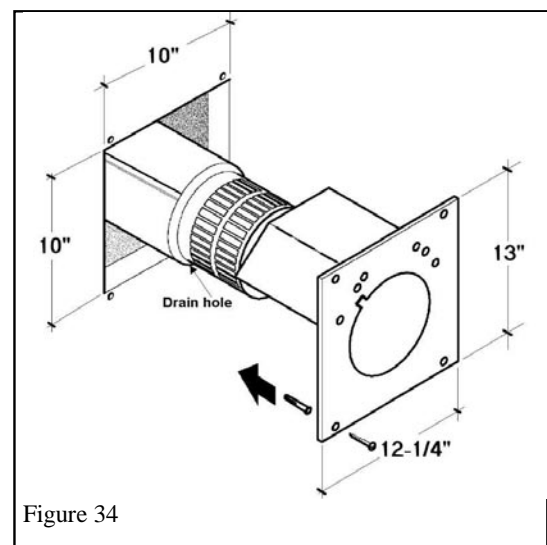

Figure 34
3. Fit the vent unit fully over the appliance inlet and outlet collars pushing on firmly. Make sure that the drain hole is at the bottom – the seam will be through the notch in the wall plates – See figure 34.
2. Bend the inner wall plate tab as shown in figure 34 so that the seam on the terminal tube will pass clearly through the plate with the wall shield at the top. Place the inner wall plate over the terminal unit.
3. Slide the appliance/terminal into the wall. Make sure that the drain hole is at the bottom – the seam will be through the notch in the wall plates – See figure 34.
7. Bend the outer wall plate tab as shown in figure 34.
10. Screw the plate to the wall with 4 screws provided. See figure 34.